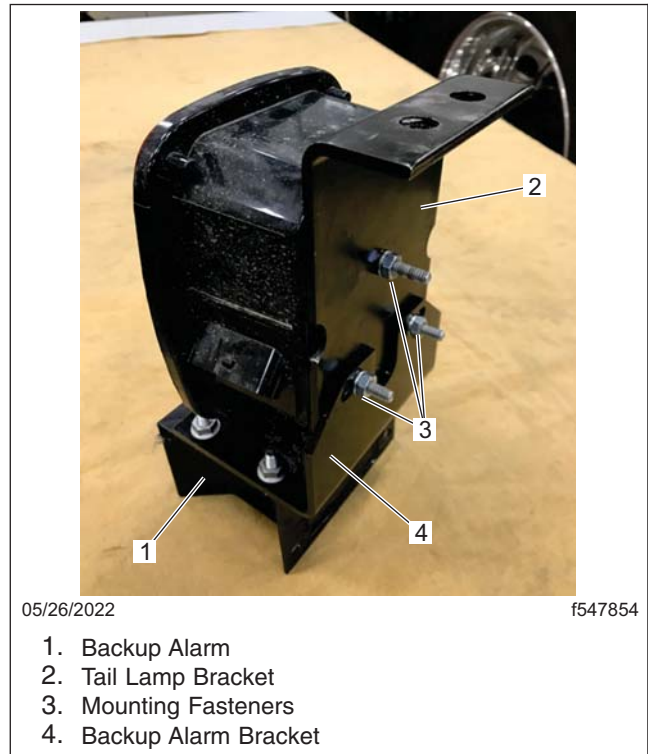

Fig. 4, Tail Lamp Bracket Removal
- Remove the three fasteners that attach the tail lamp and the backup alarm bracket to the tail lamp bracket, as shown in Fig. 4. Discard the right hand tail lamp bracket.